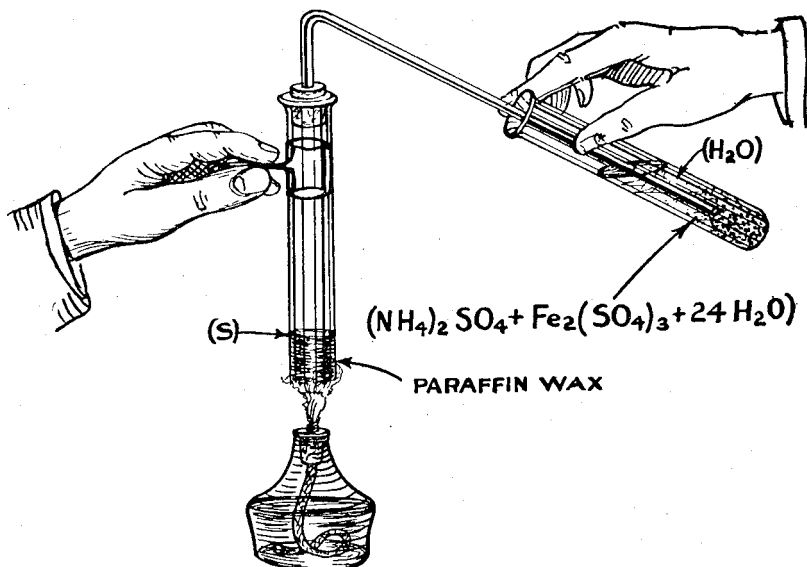

FIG. 123.—Making Ferric Sulphide.
in the test tube containing the ferric ammonium sulphate (see formula above) solution, as shown in Fig. 123. Finally, melt the paraffin and sulphur (S) over the flame of your lamp or burner, and let the hydrogen sulphide (H_2S), which is a gas and smells like rotten eggs, pass through it for 3 or 4 minutes. Soon there will be a black precipitate formed, and this is ferrous sulphide (FeS).